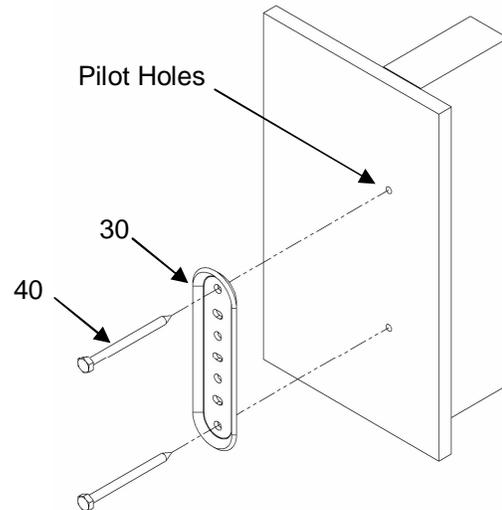

Figure 1. Secure Wall Bracket
2. Using wall bracket (30) as a template, mark two pilot holes. (See Figure 1)